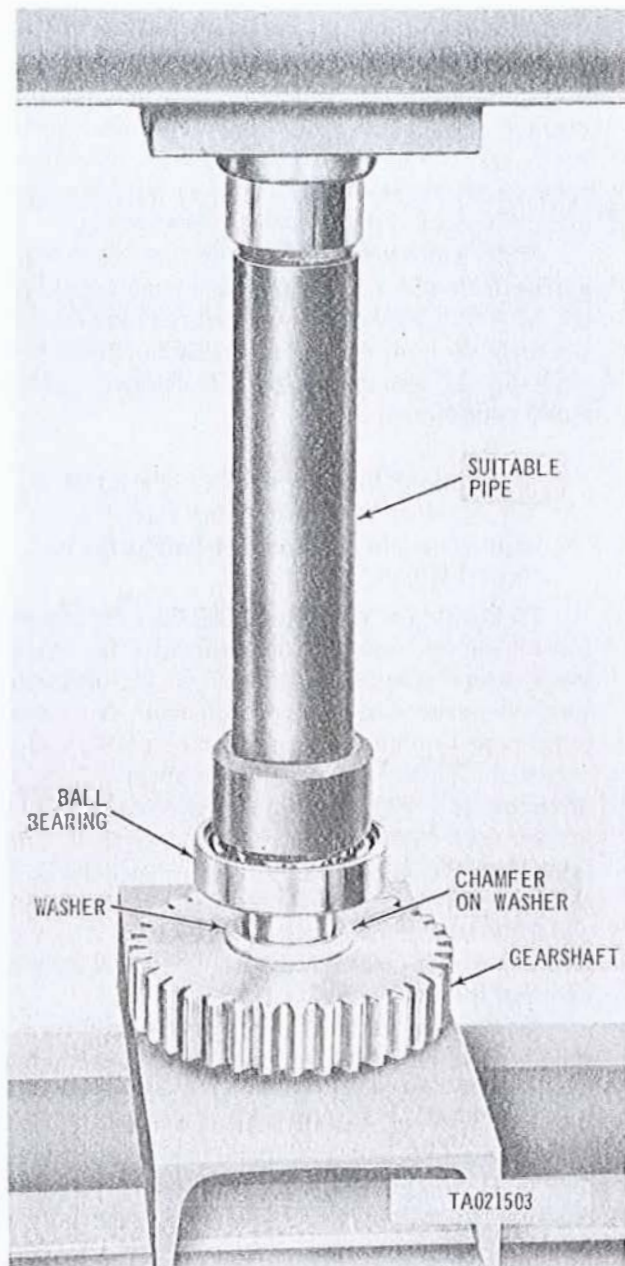

Figure 3-254. Pressing driven gearshaft ball bearing on spur gearshaft.
(4) Position fuel injection pump gearshaft (fig. 3-254) in an arbor press, and position bearing spacer with chamfer up (toward threaded end of shaft). Press ball bearing on gearshaft using pipe of a suitable size as an improvised pressing arbor.